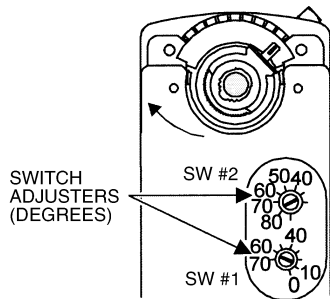

Fig. 38 — Location of the Switches for a 3 to 6 Ton EconoMiSer
These procedures serve as examples. To position the auxiliary switches, refer to Fig. 38 and 39 and use the following method:
3. Use a flat-blade screwdriver to rotate SW no. 1 adjuster downward toward zero, until resistance is encountered. Turn the adjuster in the opposite direction, until the first stage is energized. (See Fig. 38 or 39.)
2. Use a flat-blade screwdriver to rotate SW no. 2 adjuster downward toward 20 degrees, until resistance is encountered. Turn the adjuster in the opposite direction, until the second stage is energized. (See Fig. 38 or 39.)